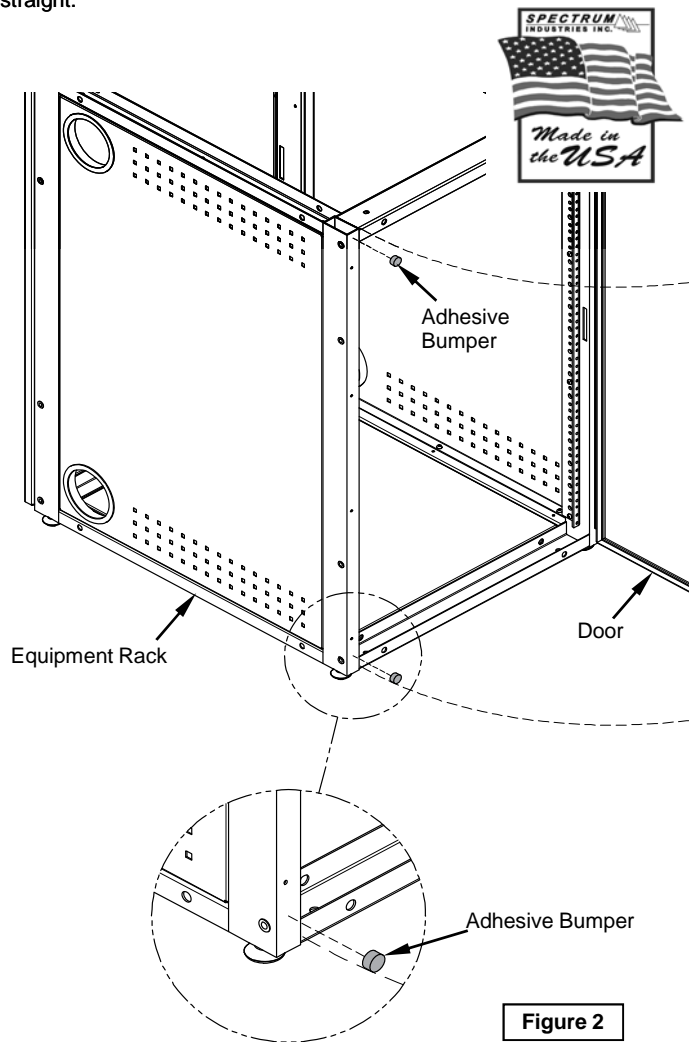

Figure 2
- A. With the door open, install the (2) adhesive bumpers onto the equipment rack frame as shown. **Figure 2.**